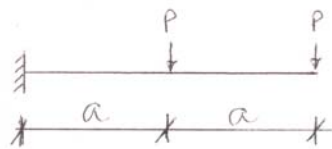

Fig. 1
- Q.2** (a) Find the deflection and slope for a cantilever beam shown in Fig. 1, using moment area method. **07**